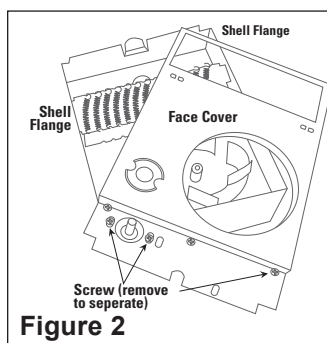

Figure 2
5. With heater facing upward, remove the screw at the bottom of face cover. (See Figure 2)
13. Tighten securing screw on bottom of face. (See Figure 2)